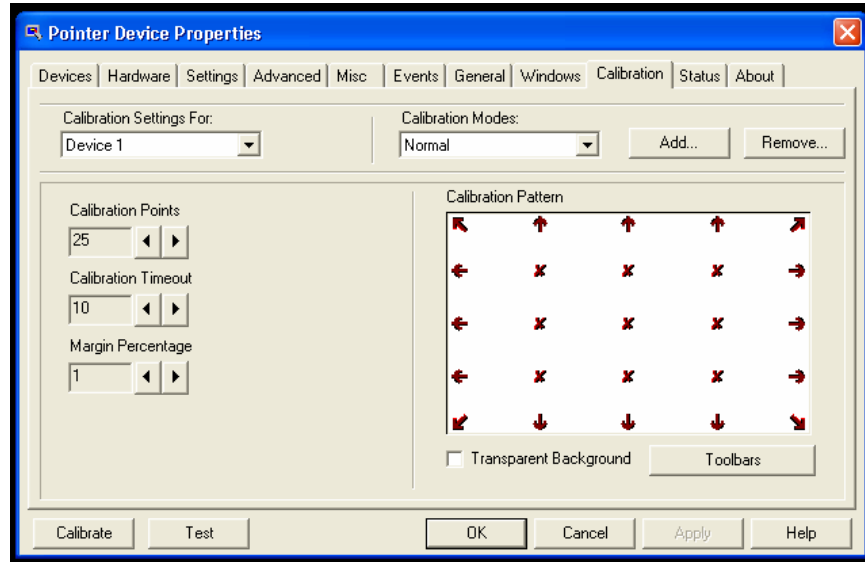

Figure 4
- 7.) Click on **Calibrate** in the lower left to start the calibration process (Figure 4)